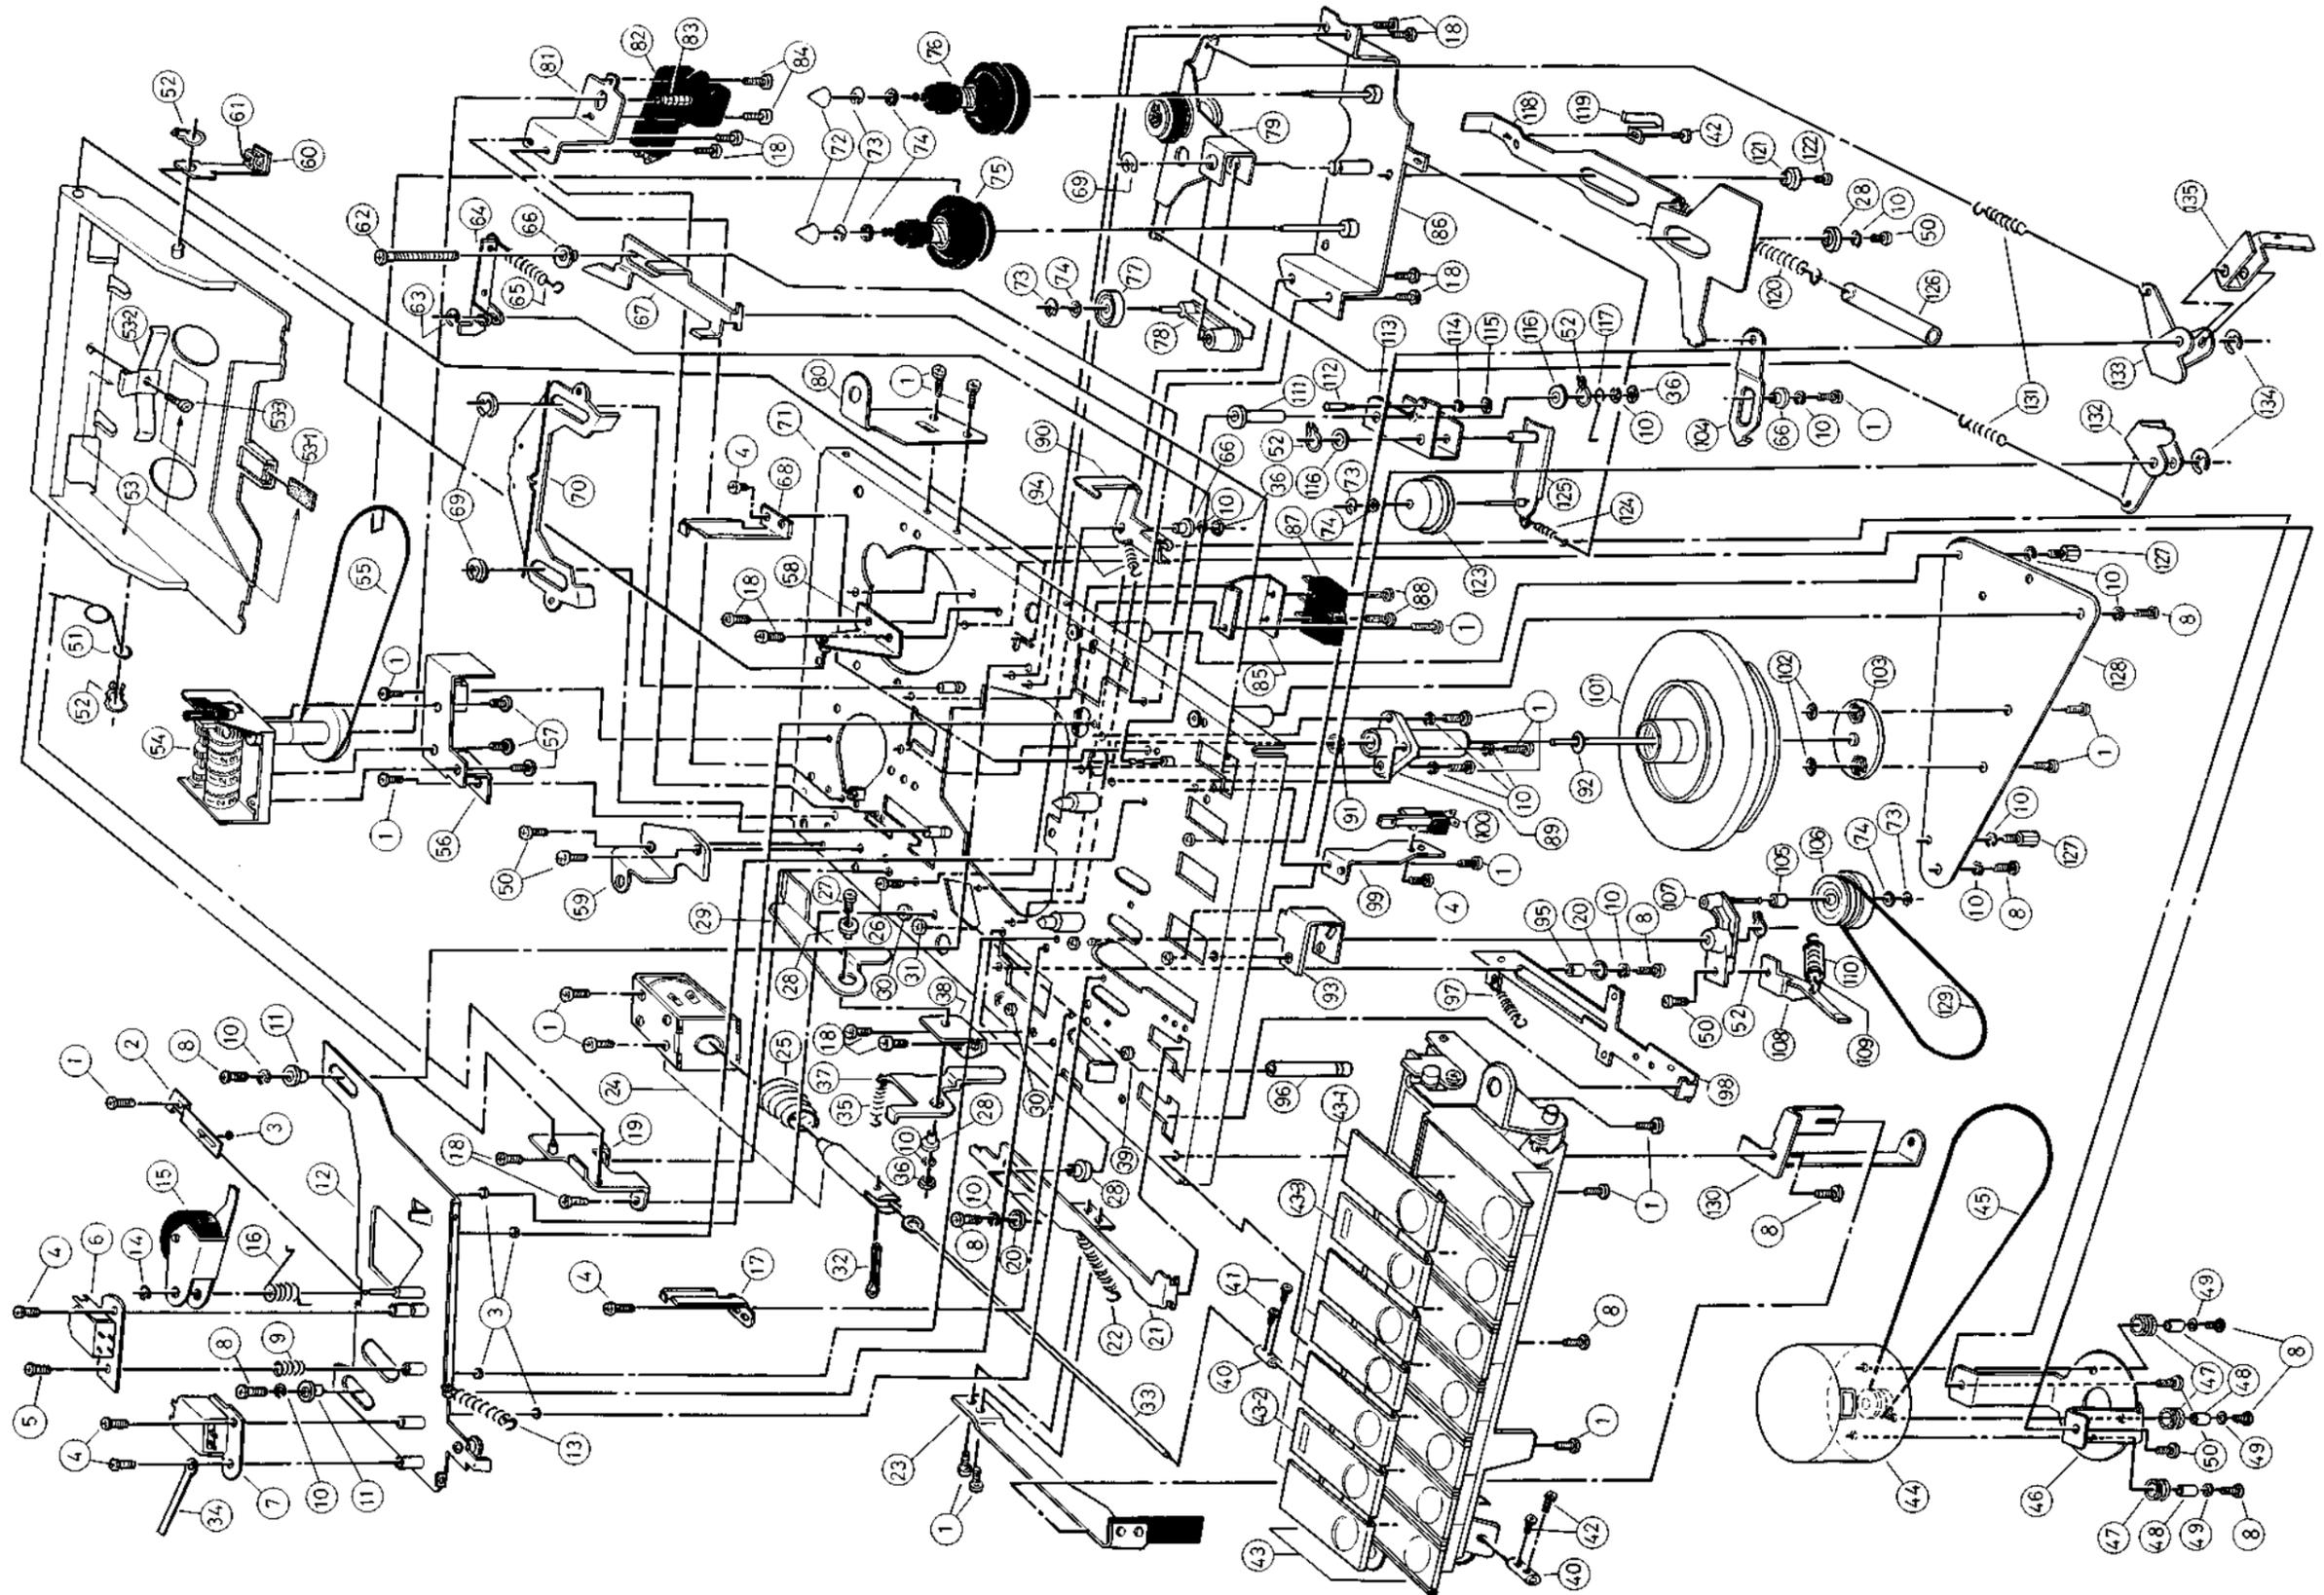

Fig. 32
**PARTS LIST OF CASSETTE MECHANISM** (Refer to Fig. 32)